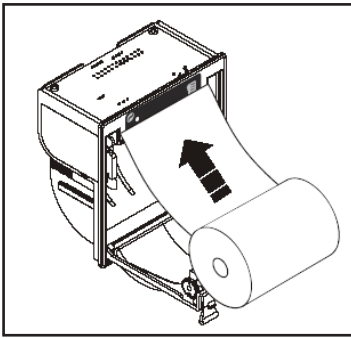

Fig. 58: Installing new paper roll
2. Position the roll of paper inside the housing in the rotation direction indicated in Fig. 58.